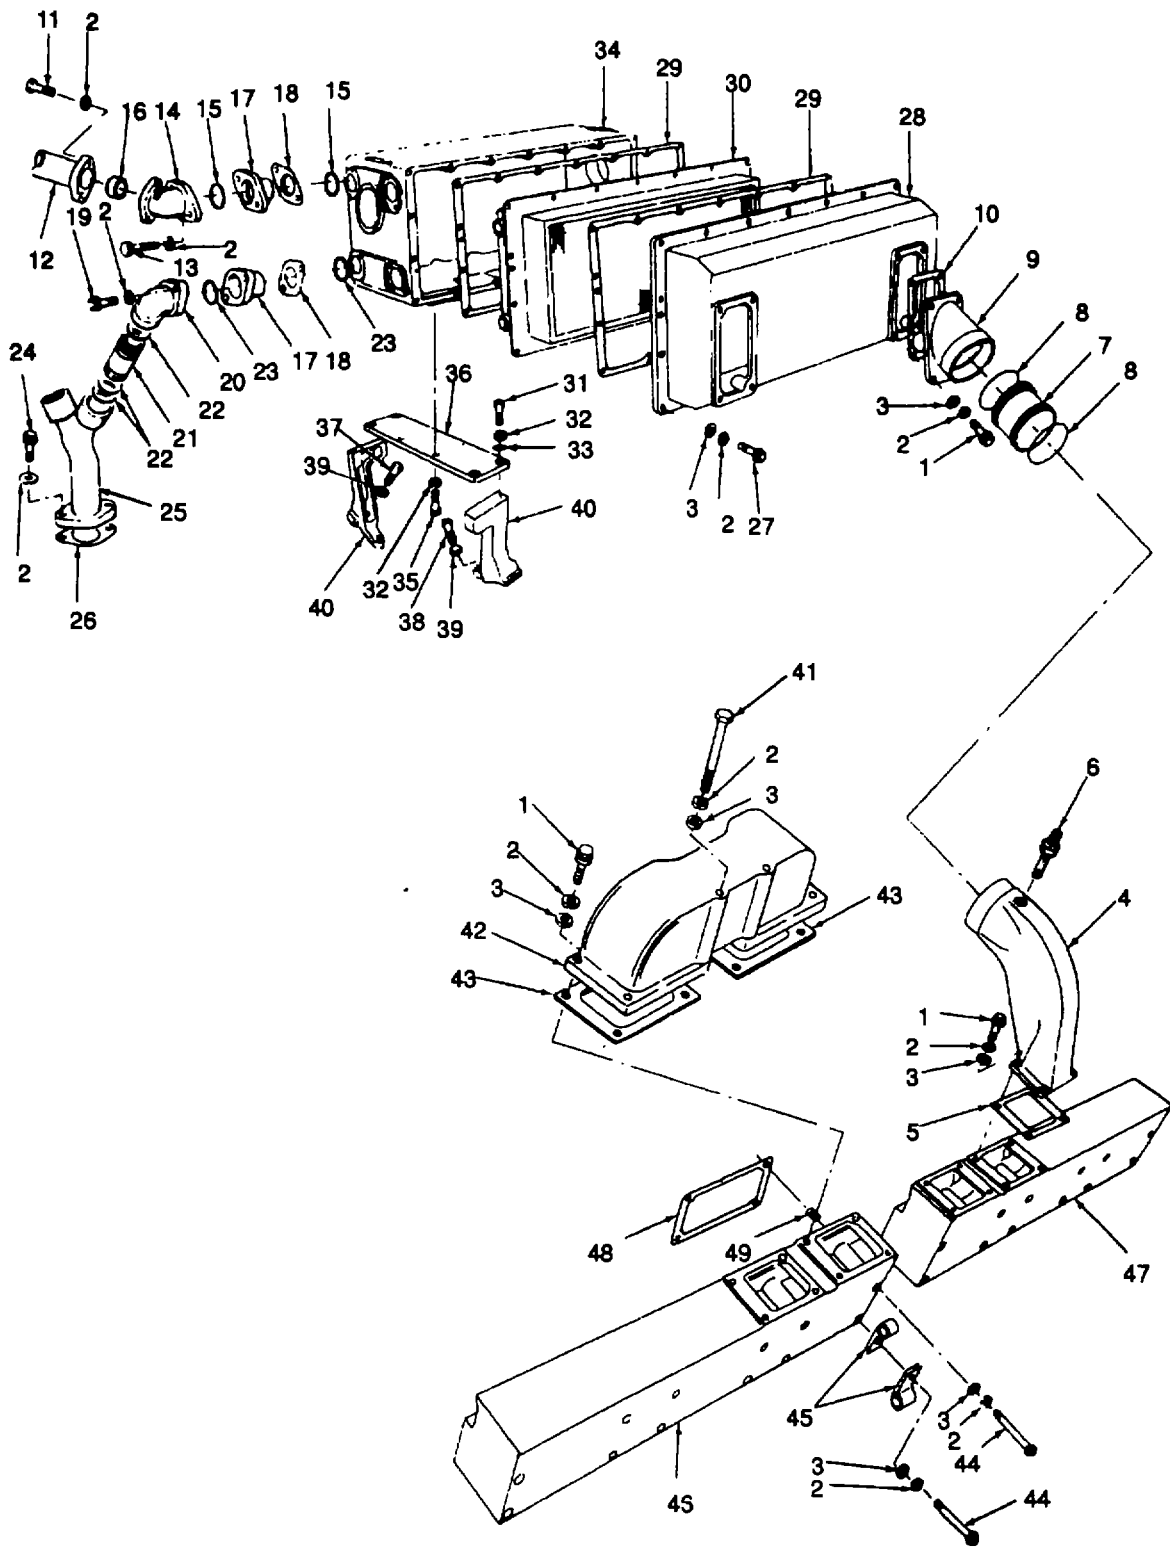

Figure 9-78. Aftercooler and Intake Manifolds (Sheet 1 of 2)
- (1) Drain the cooling system in accordance with the Operator and Organizational Maintenance Manual.
- (2) Remove the turbochargers and the turbocharger oil hose assemblies secured to the aftercooler in accordance with the Operator and Organizational Maintenance Manual.
- (3) Remove the air control valve assembly and support channels from the aftercooler and remove the air filter tubing assembly on the engine left side only in accordance with the Operator and Organizational Maintenance Manual.
- (4) Remove the ether line tubing and the ether jets and associated fittings from the intake manifold crossover housings in accordance with the Operator and Organizational Maintenance Manual.
- (5) Remove the air bleed hose assemblies to the radiator and the aftercooler in accordance with the Operator and Organizational Maintenance Manual.
- (6) Remove the capscrews (1, Figure 9-78), lockwashers (2), and washers (3), and remove the crossover housings (4) by slipping them off of the tubes (7). Remove and discard the gaskets (5).
- (7) Pull out the tubes (7), and remove and discard the packings (8). Remove and discard insulation from tube (7).
- (8) Remove the crossover connection (9), by removing the capscrews (1), lockwashers (2), and washers (3). Remove and discard the gaskets (10).
- (9) Remove the capscrews (11) and lockwashers (2) securing the outlet pipes (12) to the outlet connections (14).
- (10) Remove the hexagon head screws (19) and washers (2) securing the inlet connections (20).
- (11) Remove the capscrews (24) and lockwashers (2), and remove the transfer housing (25), tubes (21), and inlet connections (20) as an assembly. Discard the gasket (26).
- (12) Remove the capscrews (35), lockwashers (32), and washers (33), and remove the aftercooler assembly mounting plate (36).